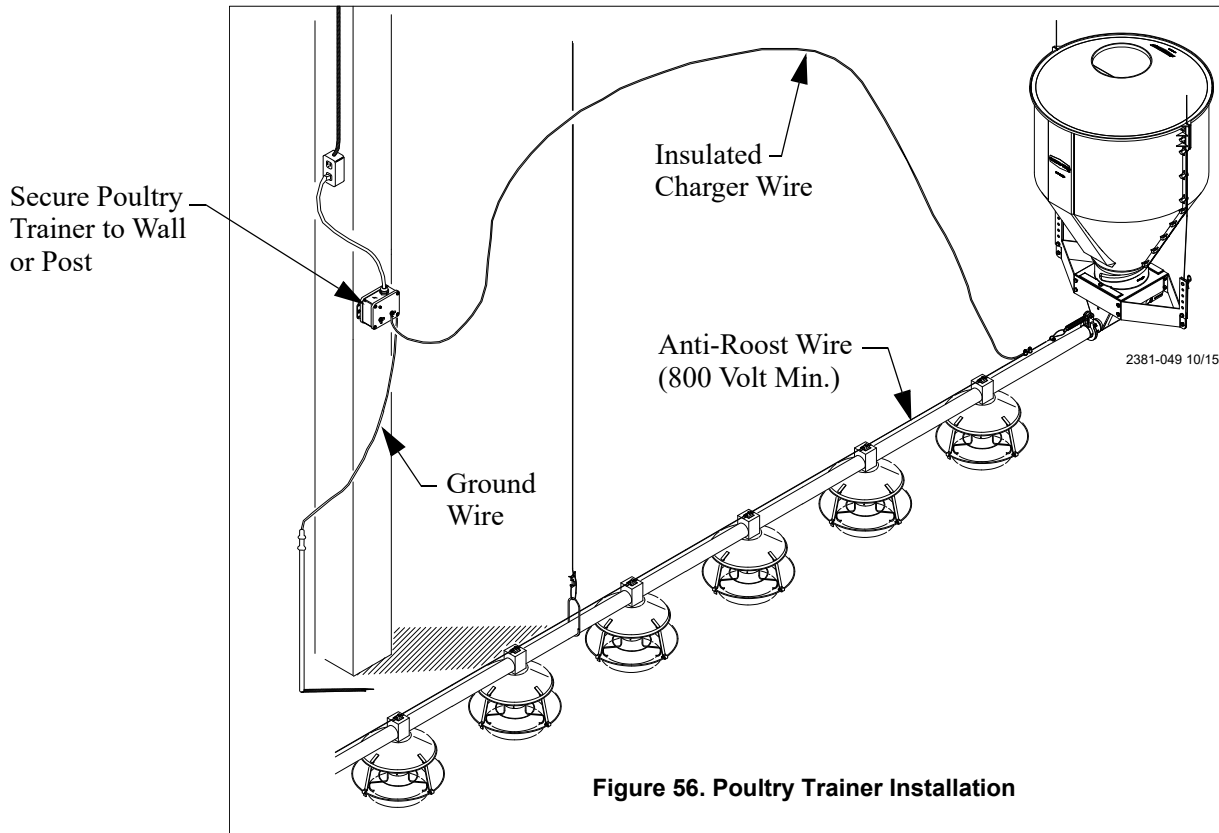

Figure 56. Poultry Trainer Installation
2. Install the poultry trainer or line charger, as shown in **Figure 56** or **Figure 57**.